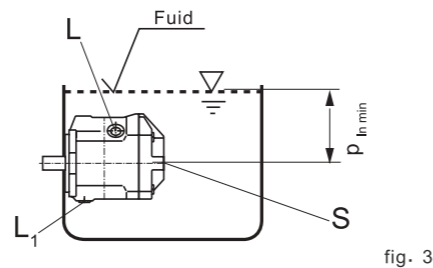

fig. 3
- a) When the minimum fluid level is the same as or lies above the upper edge of the pump then: drain port L or L₁ and port S are open (see fig. 3).